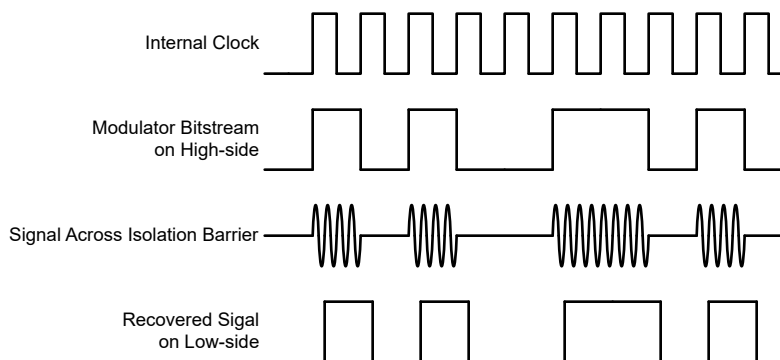

Figure 7-1. OOK-Based Modulation Scheme
The AMC3311 uses an on-off keying (OOK) modulation scheme, as shown in Figure 7-1, to transmit the modulator output bitstream across the SiO₂-based isolation barrier. The transmit driver (TX) depicted in the Functional Block Diagram transmits an internally-generated, 480-MHz carrier across the isolation barrier to represent a digital *one* and does not send a signal to represent a digital *zero*.